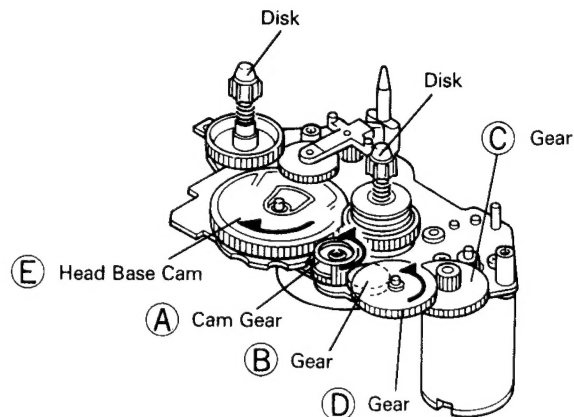

Fig. 6-12
1. Re-assemble the disk base unit in order of numbers ( **A** to **E** ) shown in Fig. 6-12.
- b) Engage the gears **B** , **C** and **D** with each other. (Fig. 6-12)